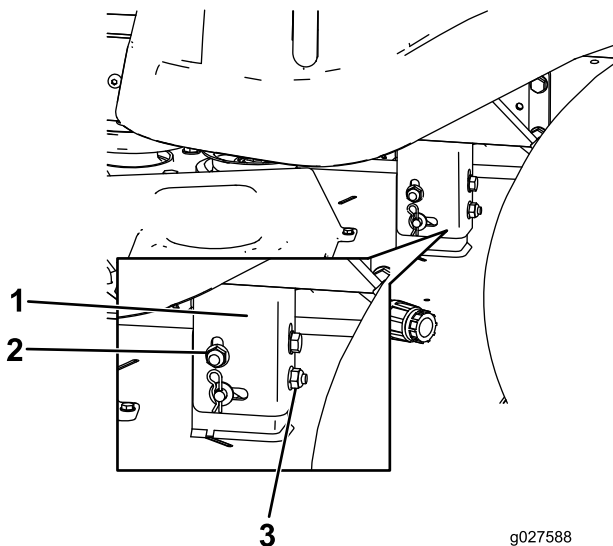

Figure 58
8. Raise or lower the left side of the mower deck by rotating the rear nut (Figure 58).
Note: Rotate the rear nut clockwise to raise the mower deck; rotate the rear nut counter-clockwise to lower the mower deck. (Figure 58).